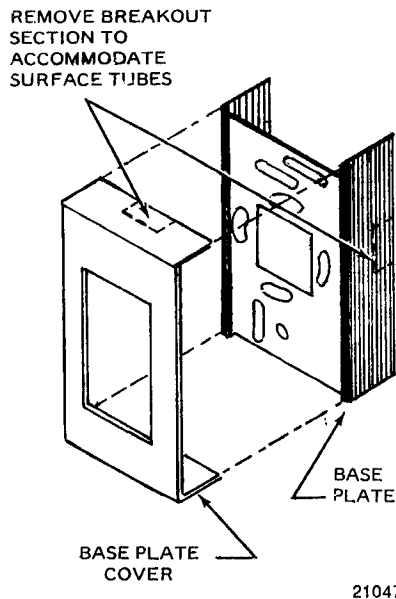

Fig. 14. Breakout Sections for Surface Mounted Tubes.
3. If tubing to banjo fitting is run exposed on wall surface, remove break-out section of baseplate or baseplate cover (Fig. 14).